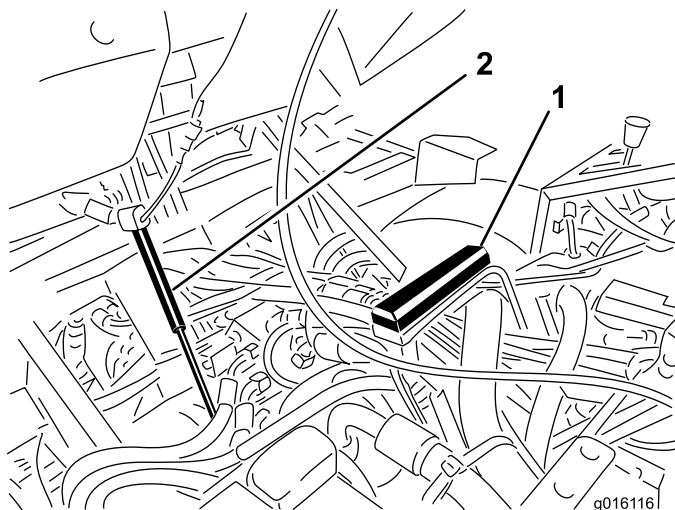

Figure 4
- Remove the front seat support bracket and the gas strut and discard (Figure 4).